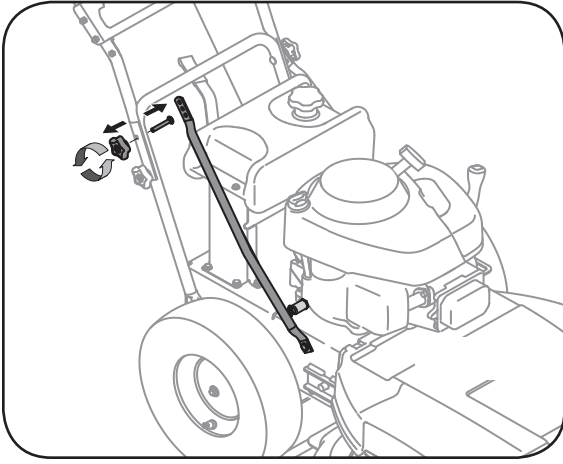

Figure 5-8
1. Remove the upper star knob and carriage screw from both sides of the upper handle. See Figure 5-8.